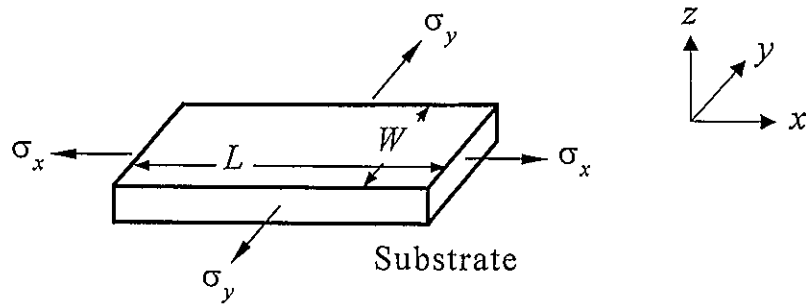

Figure 1-1
(1) As shown in Figure 1-1, the substrate is subjected to biaxial stress of σ_x and σ_y . Find the relationship between stress σ and strain ε under equi-biaxial conditions.